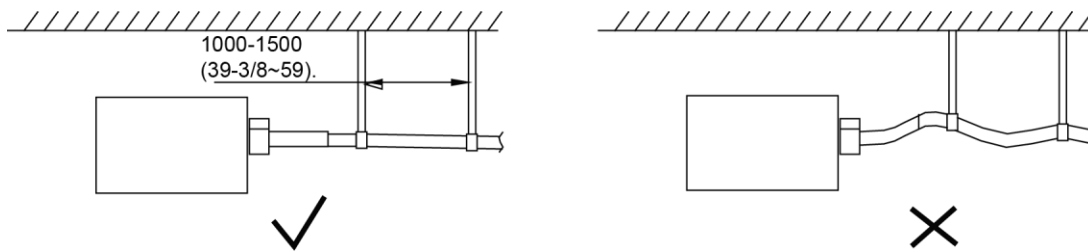

Fig18
- k) Drain pipes should have a downward slope of at least 1%~2%. To prevent pipes from sagging, install hanger brackets at intervals of 1000 ~ 1500 mm (39-3/8 ~ 59 in.) (Fig18).